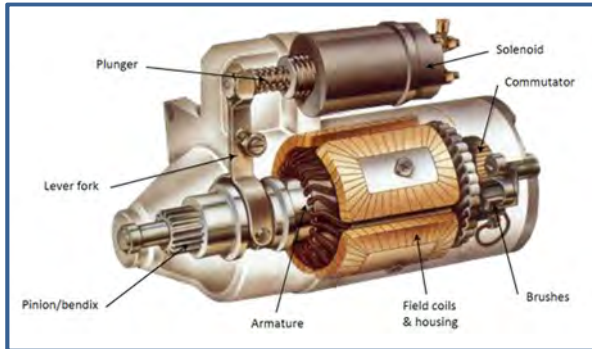
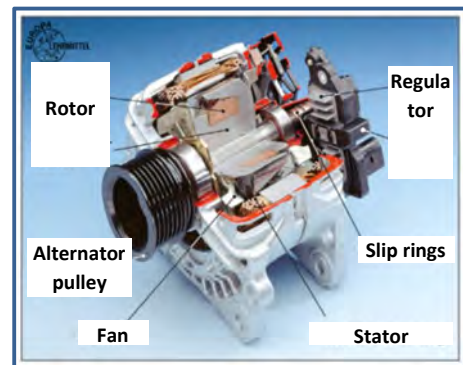
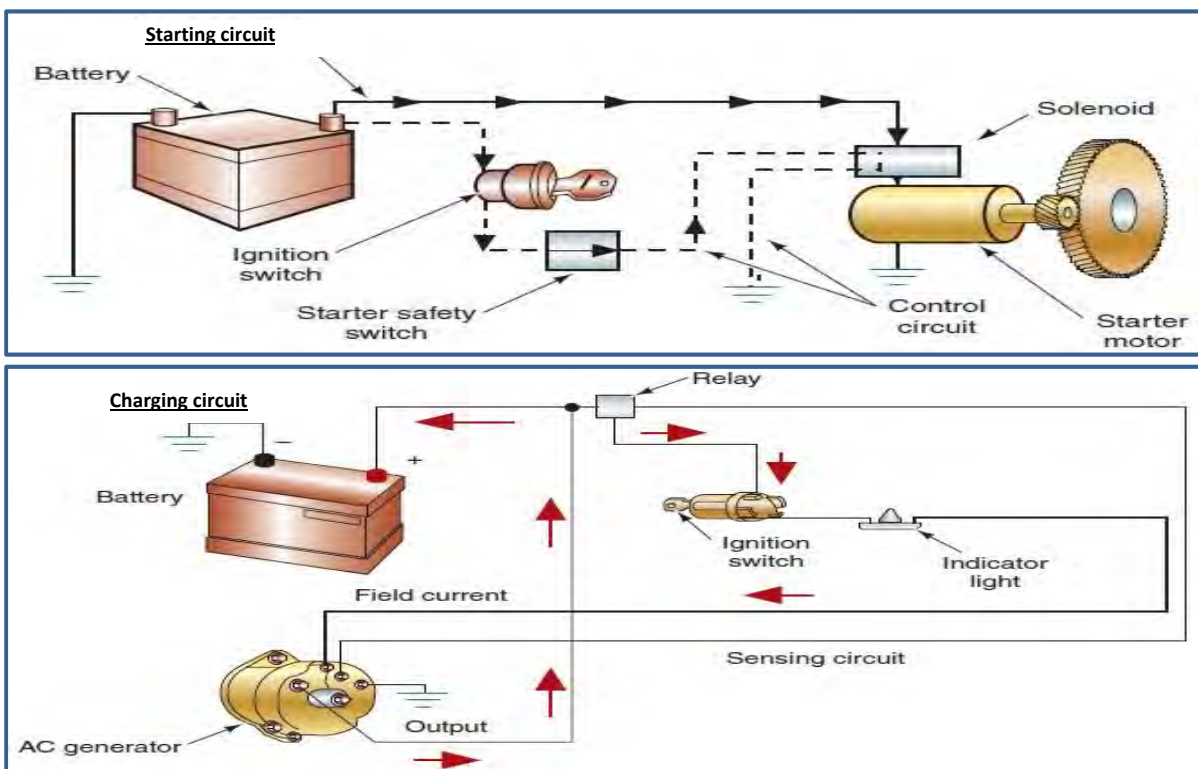

Fig 38: Exploded view of a starter (Auto electro, 2018)
Fig 39: Exploded view of an alternator (Europa lehrmittel, 2017)
Fig 40: Basic principles of the engine starter- (top) and charging (bottom) system (Autosystempro, 2018)
The electrical system of a tractor is designed to perform a variety of functions. Most tractors run on a 12-Volt direct current (DC) system. The common tractor electrical system contains five electrical circuits: the charging circuit (fig 40), the starting circuit, the fuel-system circuit, the lighting circuit and the accessory circuit. The internal combustion engine is not capable of self-starting but is cranked by a small but powerful electric motor. This motor is called a starting motor, or starter. The battery sends current to the starter when the operator turns the ignition
switch to start. This causes a pinion gear in the starter to mesh with the teeth of the ring gear, thereby rotating the engine crankshaft for starting. The typical starting circuit (fig 40) consists of a battery, a starter motor (fig 38) and drive mechanism, an ignition switch, the starter relay or solenoid, and the wiring to connect these components. The charging system recharges the battery after engine cranking and it supplies all the electricity for the vehicle when the engine is running. The battery provides current to energize or excite the alternator and assists in stabilizing the initial alternator output. An alternator (fig 39) is a generator that uses mechanical (engine) power to produce electricity. An alternator belt links the engine crankshaft pulley with the alternator pulley to drive the alternator.